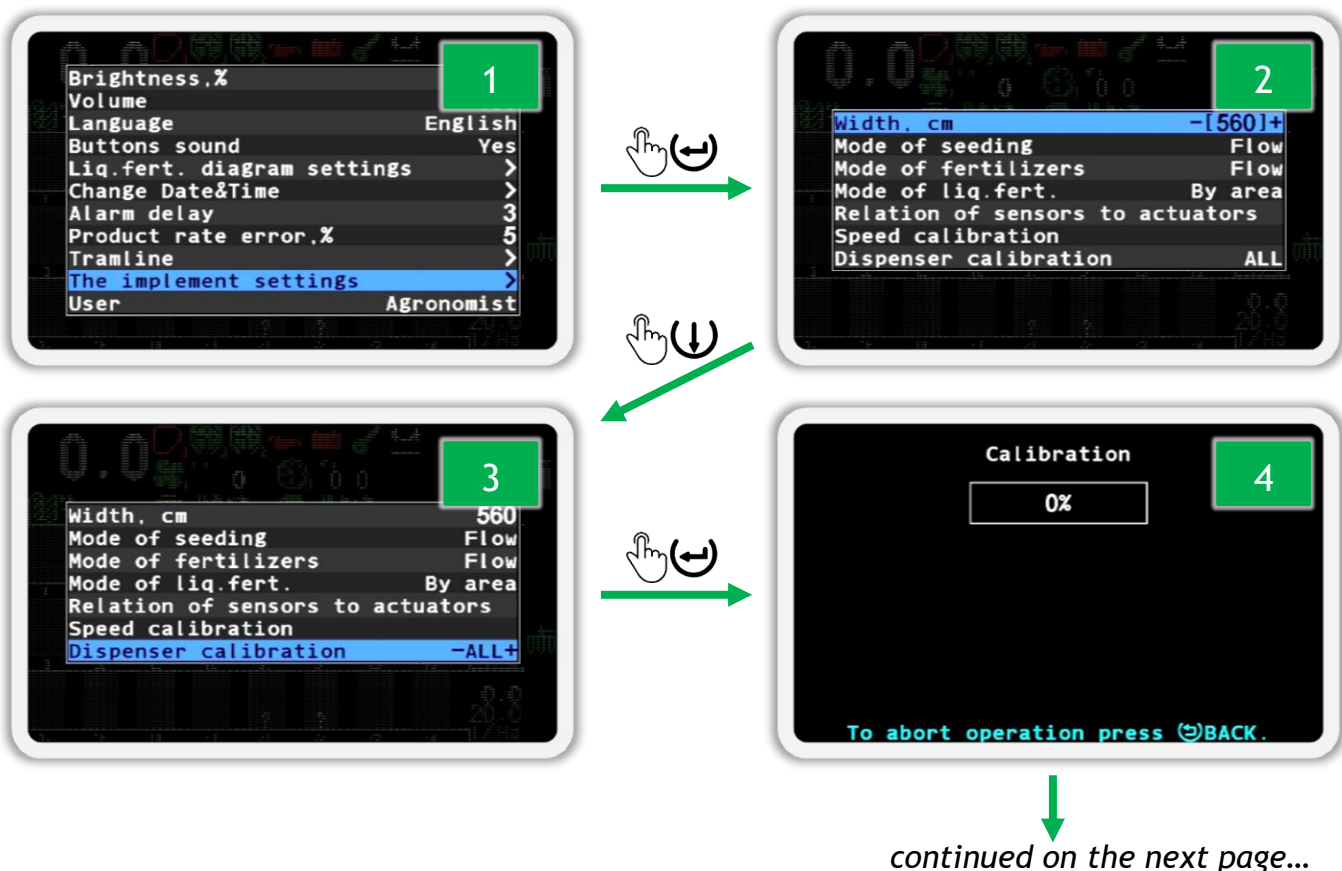

Figure 84
2. In the menu of the main screen in the  “Settings” menu select the  “The implement settings” item (see Figure 84 p.1) and press the  “Menu” button (see Figure 84 p.2).
3. Select the  “Dispenser calibration” item (see Figure 84 p.3).
5. Start the dispenser sensor calibration process. To do this, press the  “Menu” button (see Figure 84 p.4).
6. Start rotating the drive wheel. As pulses are received from the dispenser sensors and the speed sensor, the percentage of the progress of the calibration will increase (see Figure 84 p.5).
7. Rotate the drive wheel until the message “Stop rotation!” appears (see Figure 84 p.6).